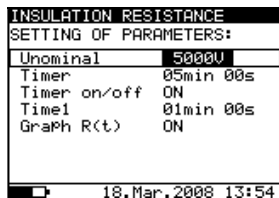

Fig. 11 Set-up menu in Insulation Resistance measurement
- Press the SELECT key, the set-up menu will appear on the display, see the *Fig.11*.